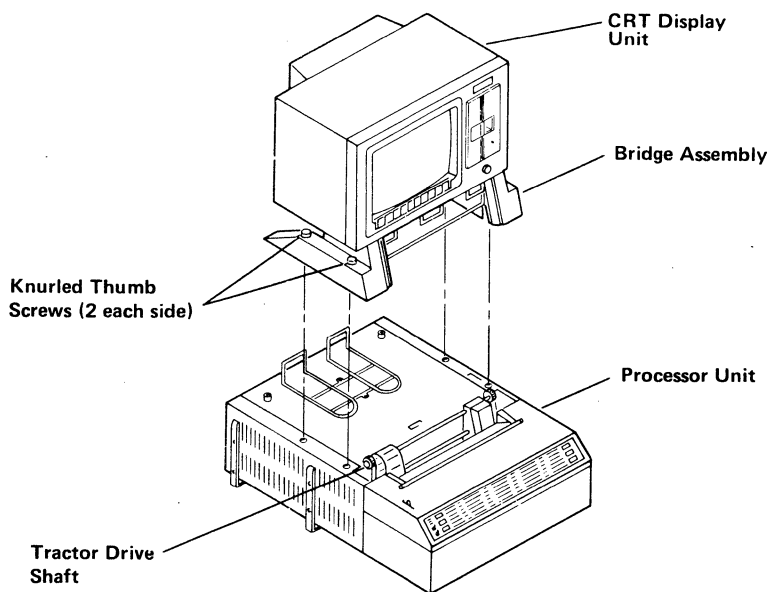

Figure 1-9. CRT Display Unit and Bridge Assembly.
6. Remove the CRT display unit and bridge assembly by loosening the four (4) knurled thumb screws and lifting the entire assembly. Move the entire assembly out of your way. (See Figure 1-9).